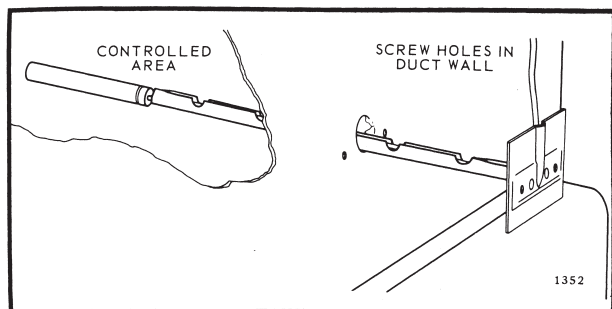

FIG. 5—INSERTION INTO DUCT.
5. Insert bulb and holder into controlled area through hole prepared in Step 1 (Fig. 5).